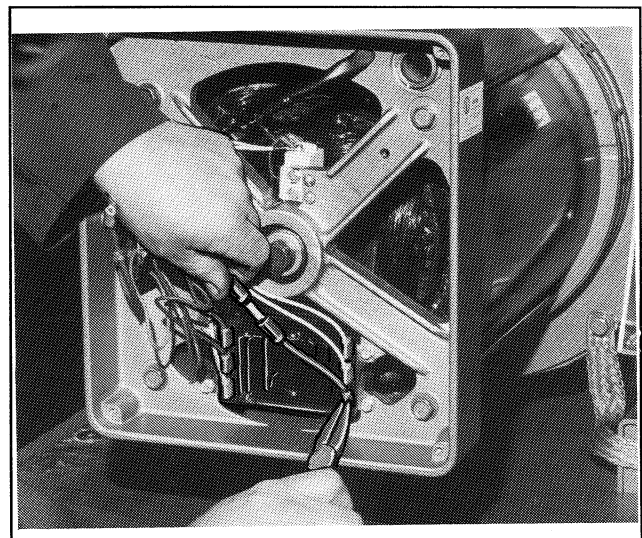

Figure 8-5. Removing Leads from Voltage Regulator
11. Remove leads 33, 44, 55, and 66 from voltage regulator pins. See Figure 8-5.